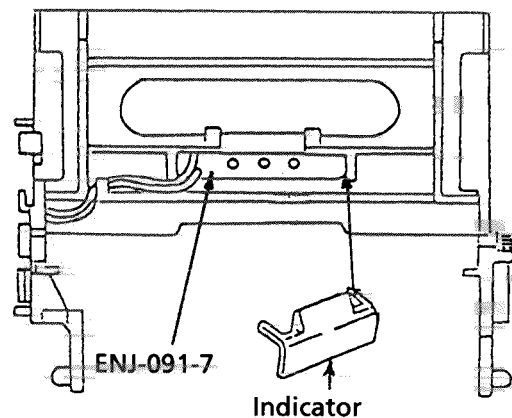

Fig. 12 Rear view
1. Remove the (11).
2. Press the indicator hook and release it to remove the indicator.(Fig.12)